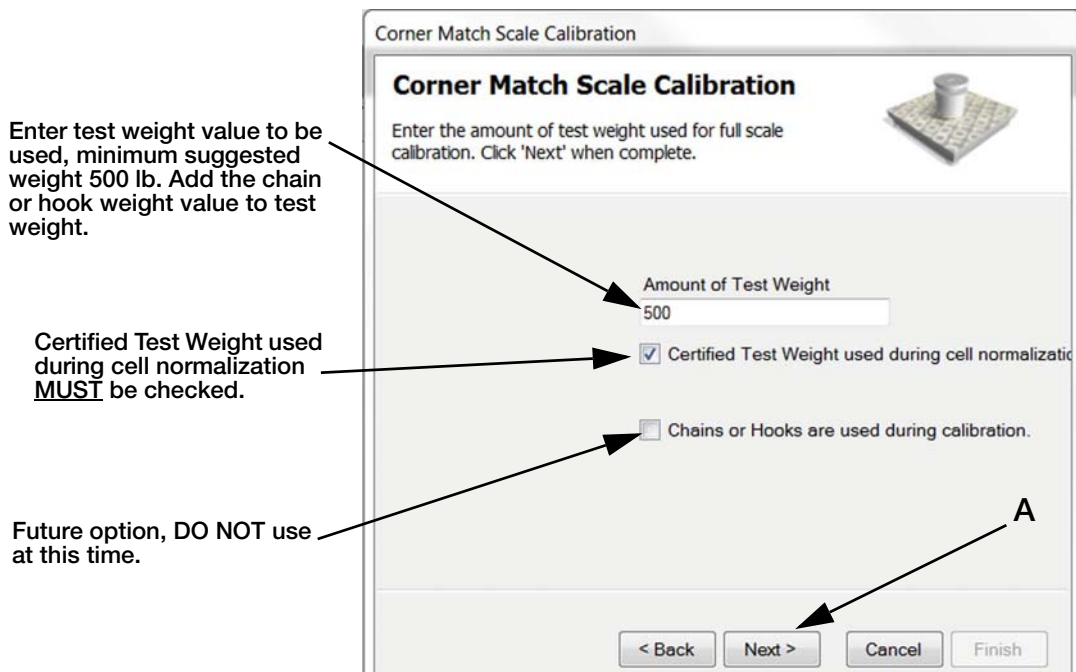

Figure 5-4. Enter Test Weight Value
**Note** When hanging weights from the forks make sure to note the weight of hanging device and add to test weight value (Figure 5-4).
6. Enter test weight value to be used and press **Next** (Figure 5-4 A).